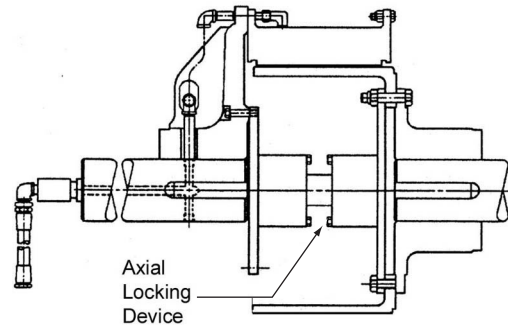

Figure 4
2.1.2 **Figure 4** illustrates the gap-mounting arrangement with an axial locking device. The axial locking device restricts the relative axial motion between the driving and driven shafts. This arrangement is typically used where a synchronous motor armature with plain bearings must be held on magnetic center.